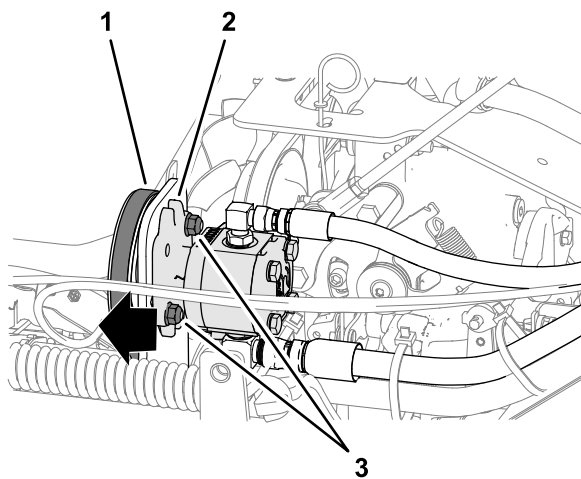

Figure 51
3. Loosen the 2 flange locknuts (3/8 inch) securing the auxiliary pump to the mounting bracket (Figure 51).
- Slide the pump outward (Figure 51) in slots and torque the flange locknuts to 37 to 45 N·m (27 to 33 ft lb).